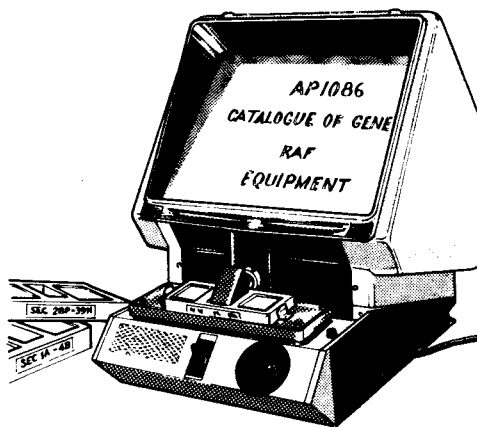

Fig 23.4 Microfilm viewer
12. Having given each item an identification code, there is a need for a *catalogue* in which these codes are filed in numerical order. This catalogue, called AP1086, has been produced in microfilm form with the information in about 10 film cassettes. Each cassette contains certain sections and sub-sections which can be read through the viewer illustrated in Fig 23.4. In addition to the viewer and cassettes in SCAF, many units have other viewers in large user departments — eg Eng Wing HQ.
- Insert the appropriate cassettes (the contents of a cassette are clearly marked — see Fig 23.4).